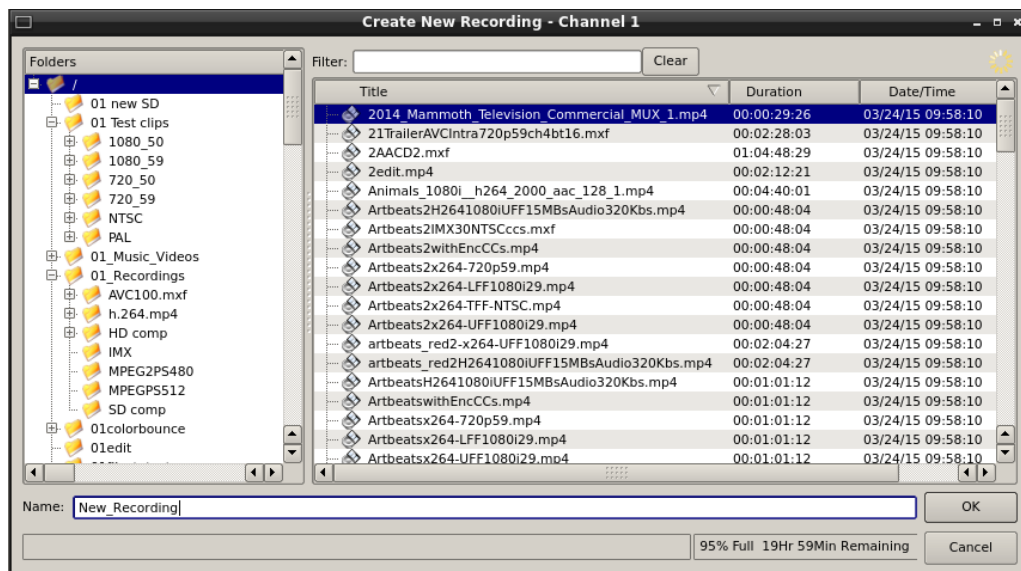

Figure 9 - Channel 1 Create New Recording dialog
- From the Channel 1 Transport Window, Select **FILE > NEW**. The dialog of **Figure 9** below appears.